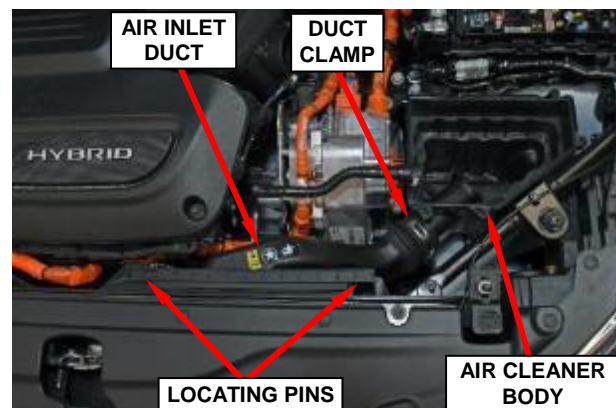

Figure 20 – Air Cleaner Body
16. Loosen the duct clamp and pull the air inlet duct straight up to disengage the locating pins from the rubber mount sockets (Figure 20).
17. Disengage the air cleaner body locating pins from the rubber mount sockets then remove and save the air cleaner body (Figure 20).